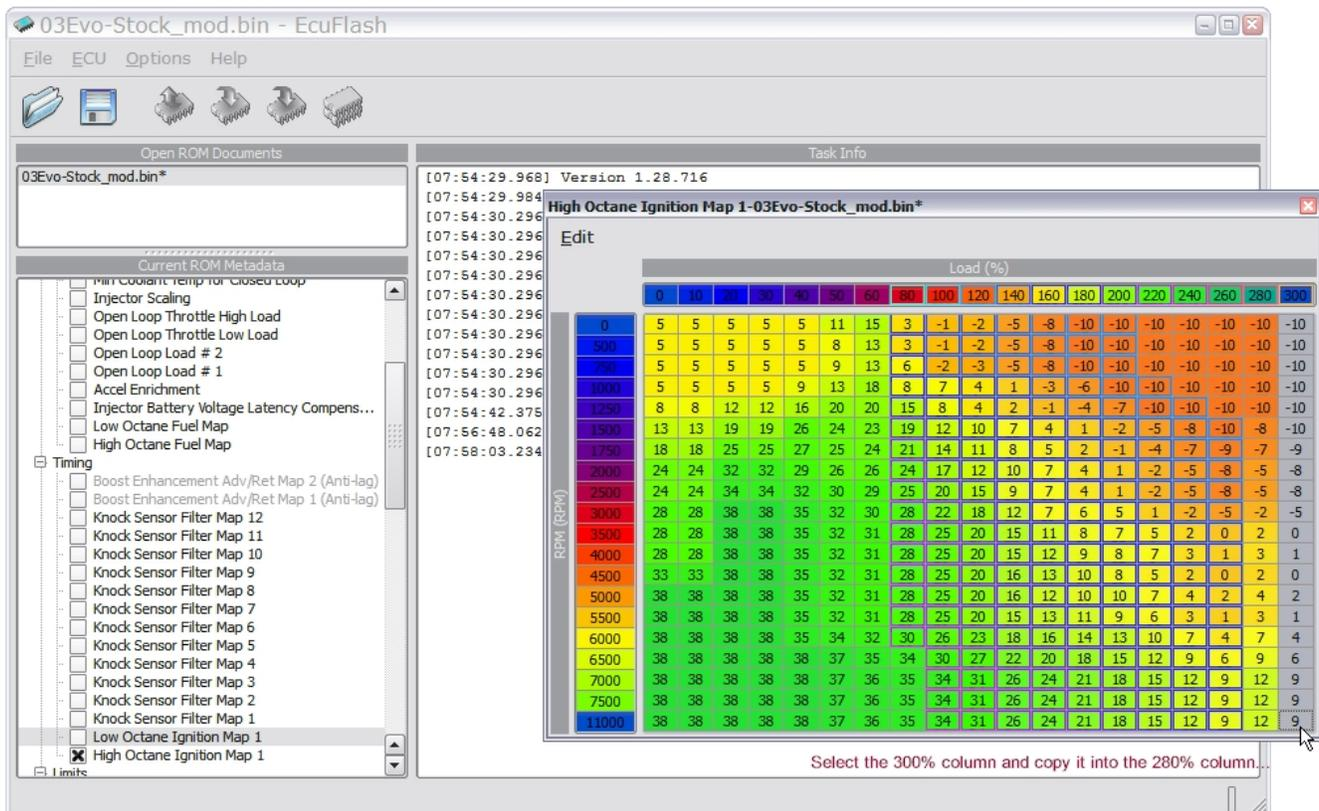

Figure 17, modified 2003 Evolution VIII ECU High Octane Ignition Map, select 300% Load column and copy
- The 300% column should now be highlighted as shown in figure 17.